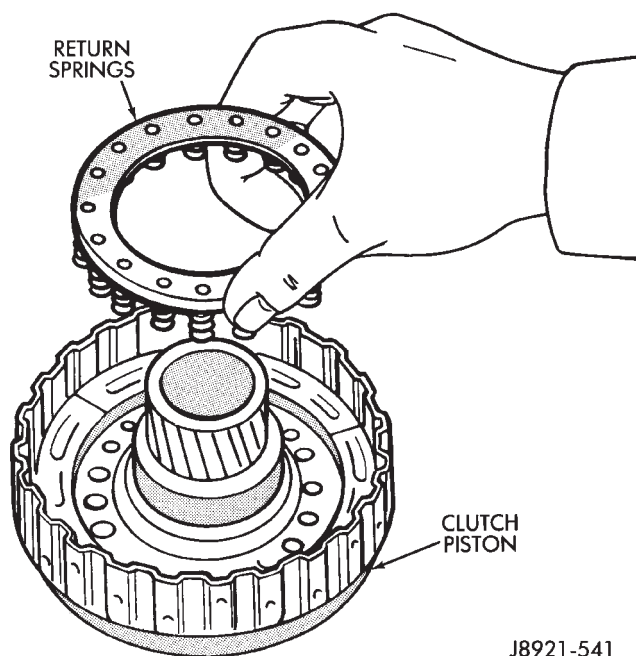

Fig. 23 Installing Piston Return Springs
(9) Lubricate and install new O-rings on clutch piston. Then install piston in clutch drum.
(10) Install piston return springs in clutch piston (Fig. 23).